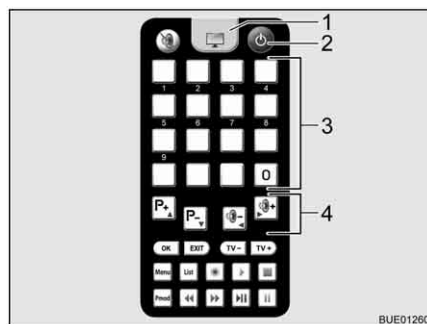

Fig. 34 Remote control
- Press the key "⏻" (Fig. 34,2) on the remote control.
- Use the memory buttons (Fig. 34,3) or the function buttons (Fig. 34,4) to set the required transmitter.